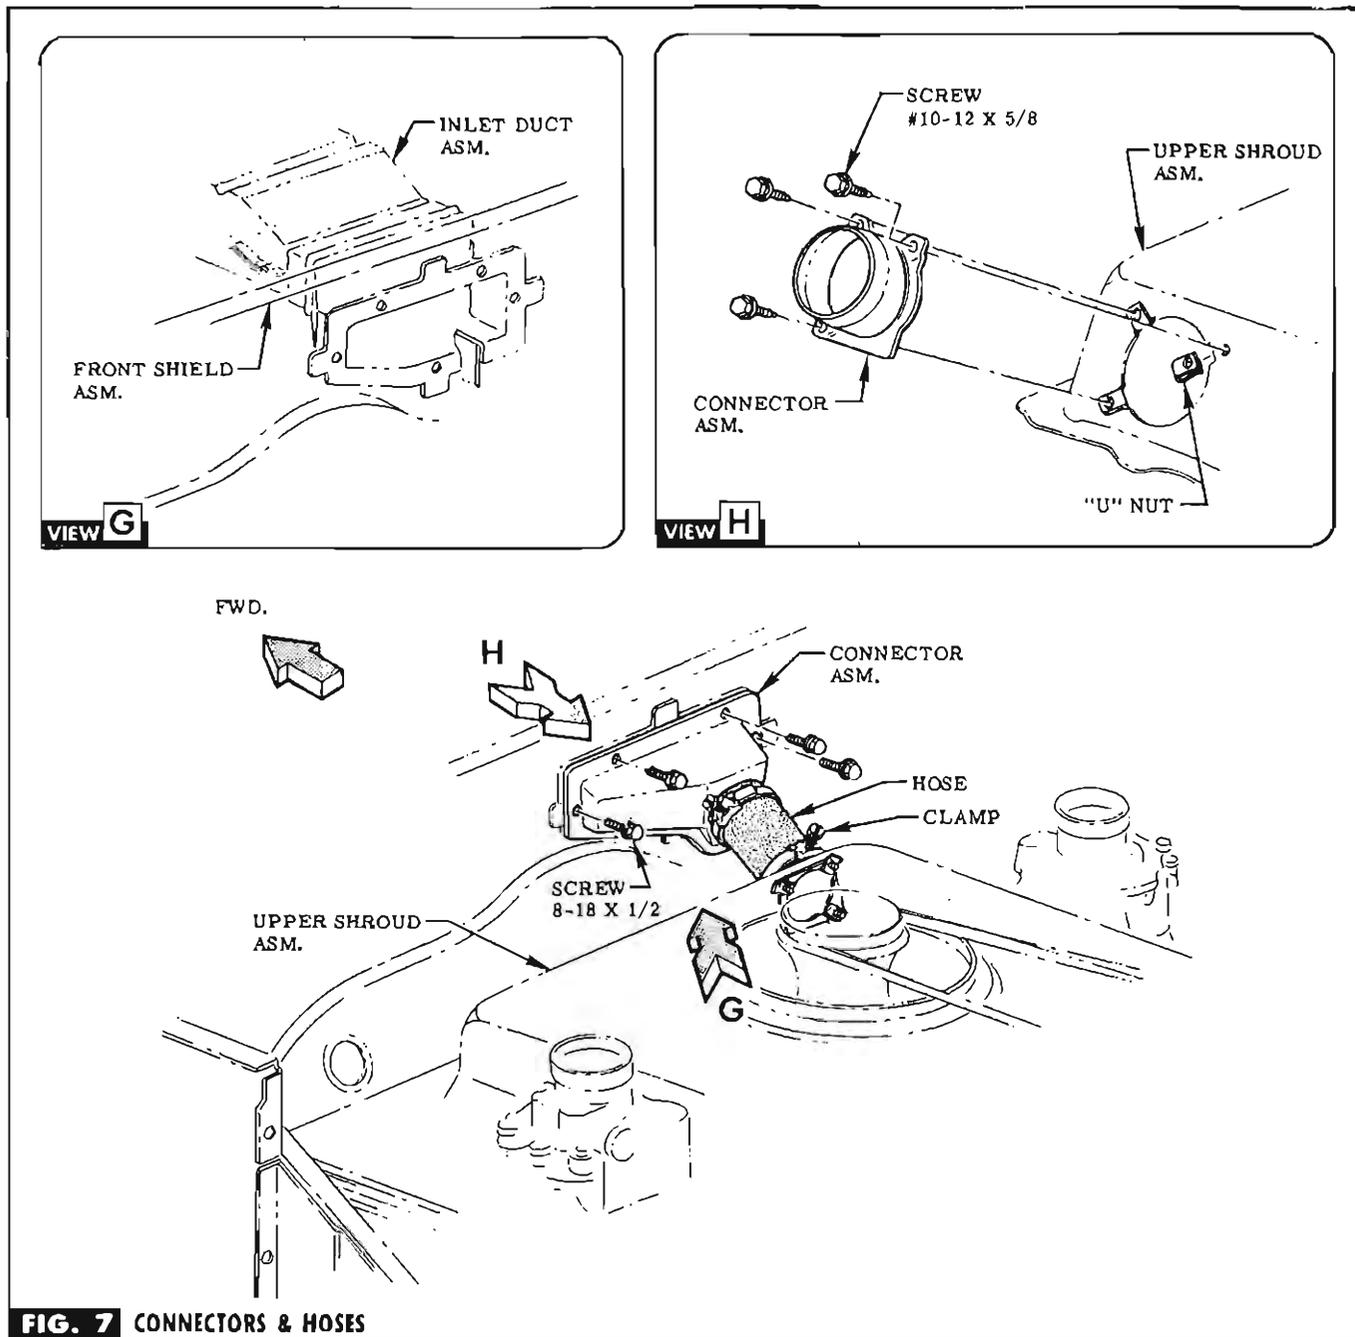

FIG. 7 CONNECTORS & HOSES
STEP 11 ATTACH CONTAINER ASM. TO BRACKET. SEE FIG. 7. **NOTE** If heater exists, bend wire pins of container for clearance.
NOTE Litter container truck attachment to bracket same as all series. See Step 11, Fig. 7.
STEP 26 INSERT HAND THRU OPENING & PULL INLET DUCT THRU. INSTALL CONNECTOR WITH SCREWS PROVIDED (IN BAG D). SEE FIG. 7 & VIEW G.
STEP 29 PLACE CLAMPS ON THE HOSE & INSTALL HOSE. TIGHTEN CLAMPS. SEE FIG. 7.